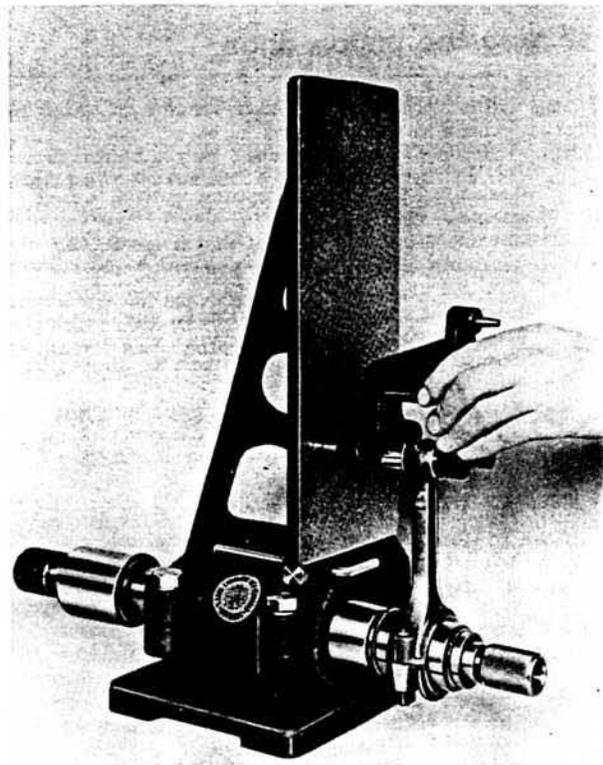

Fig. 29. Checking for distortion
2. When checking for distortion, locate the indicator as shown in Fig. 29.